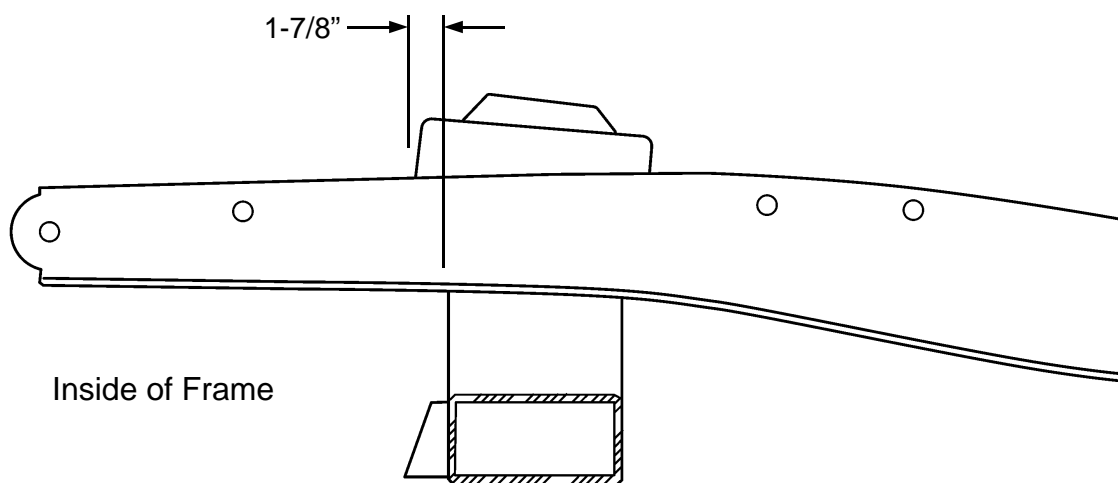

Figure 5
7. Next are the spring towers. They sit on top of the frame rails. They are prefitted for your frame and are located as shown in figure 5. They are 1-7/8" forward from the front of the crossmember, measuring as shown in figure 5. The high side of the spring tower goes towards the front end of the frame. Clamp in place, double check your dimensions, and weld all around, including the gusset flanges on the sides of the rails. For added strength, you can also weld the inside of the gusset flanges.